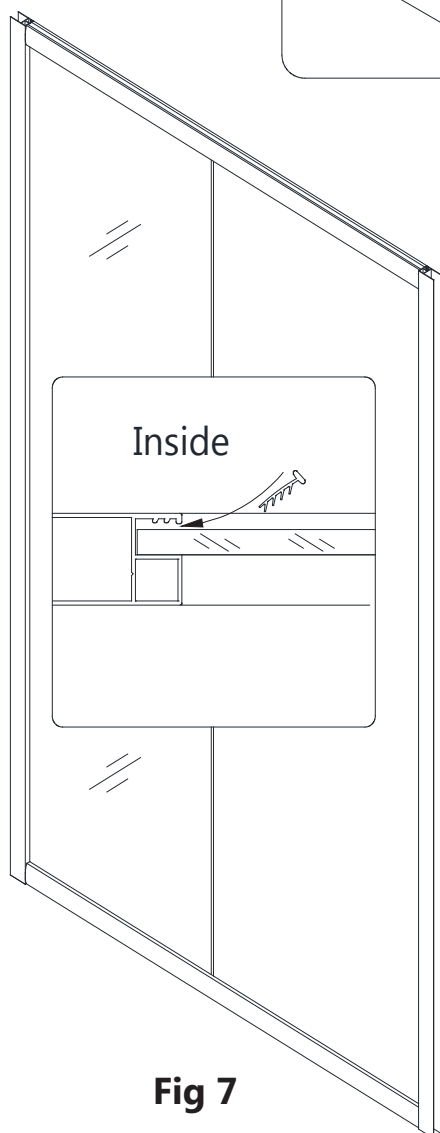

Fig 7
7. Repeat Step #3, Step #4, Step #5 and Step #6 to fasten the **Top Guide Rail (#03)** to the **Glass Profiles (#01)** and secure the **Stationary Glass (#05)** with the remaining **Glass Holder (#16)** and **Flat Head Screw ST4.2 x 16 (#12)**. (Fig 7)